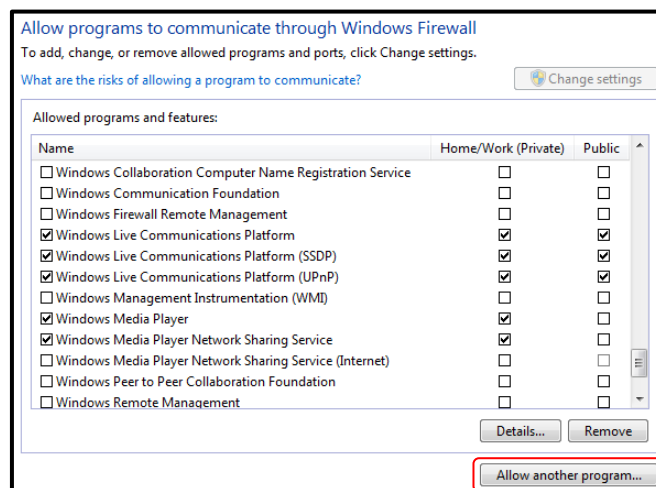

Figure 5 - Adding another program to allowed list
4. Click the “Allow another program...” button. Refer to Figure 5.